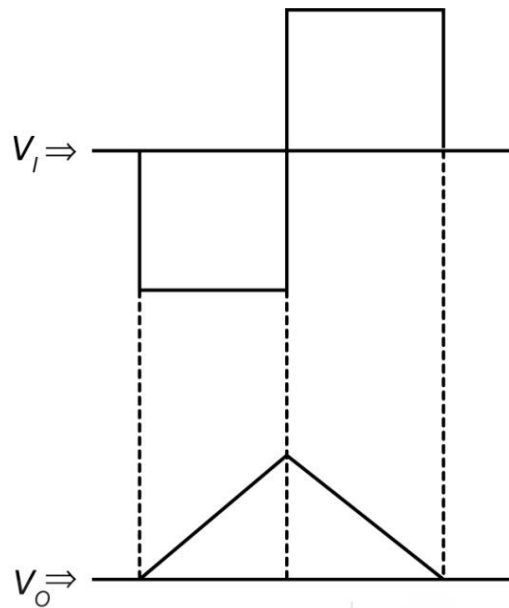

Fig. 14.25: Output of an integrator with square wave input.
7. The output waveform is as given in Fig. 14.25.